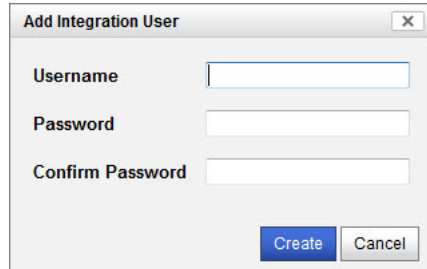

FIG. 19 Add Integration User window
2. Click the *New Integration Login* button to open the *Add Integration User* window (FIG. 19).